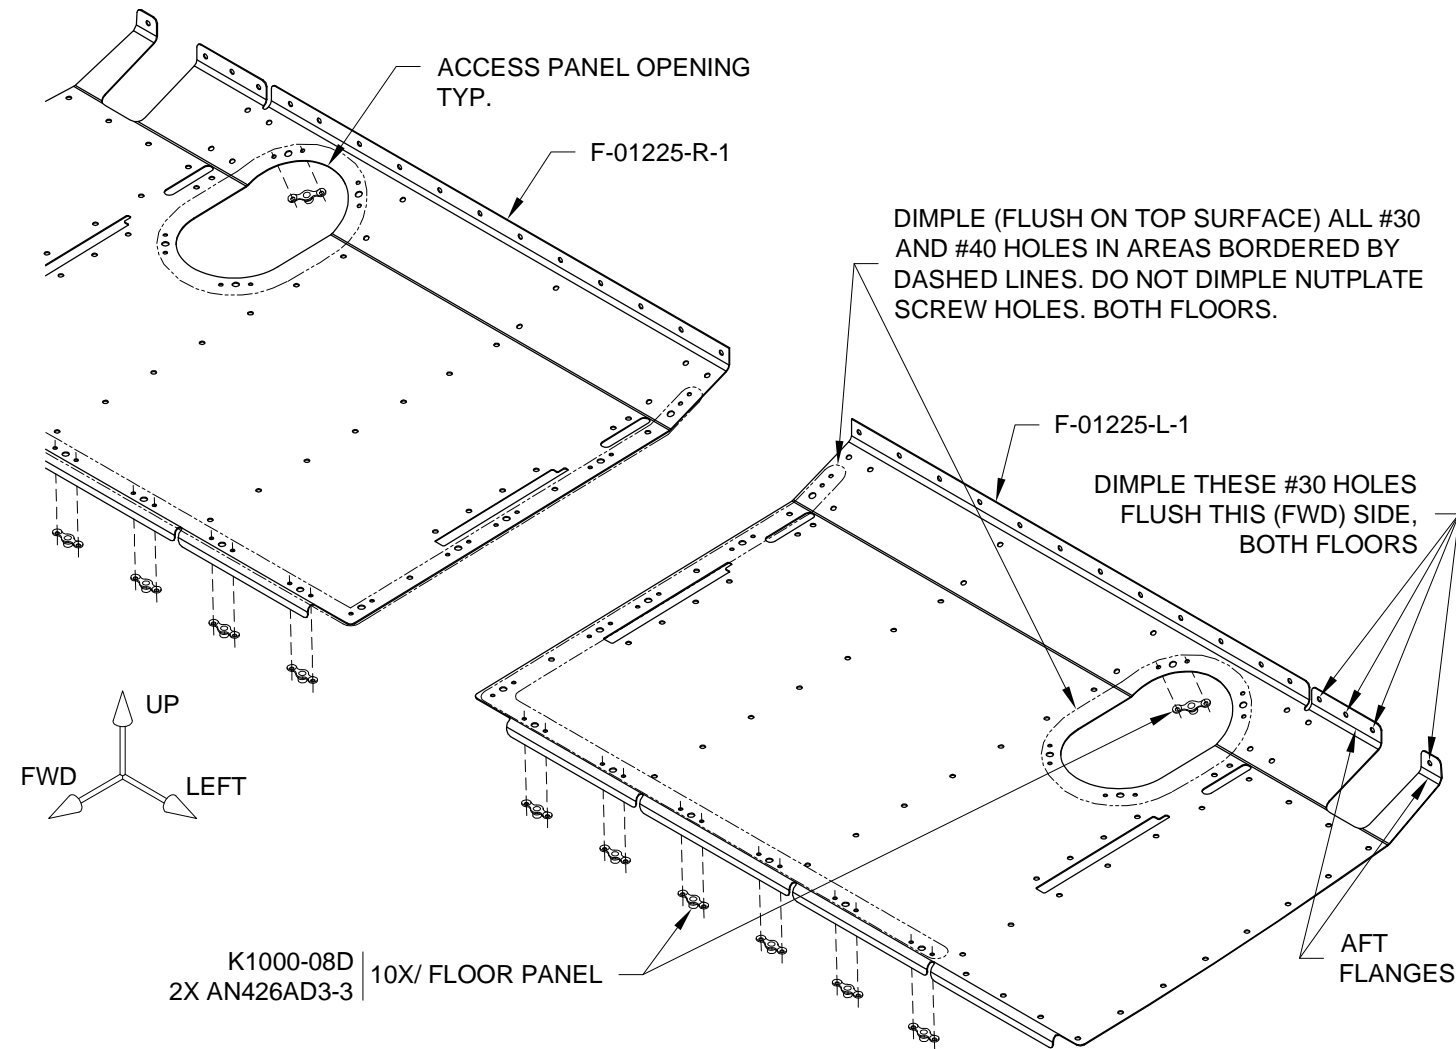

FIGURE 1: ATTACHING NUTPLATES TO F-01225L-1 & -R-1
Step 1: Dimple #30 the four holes in the aft flanges in both F-01225-L-1 & -R-1. See Figure 1 call-outs.